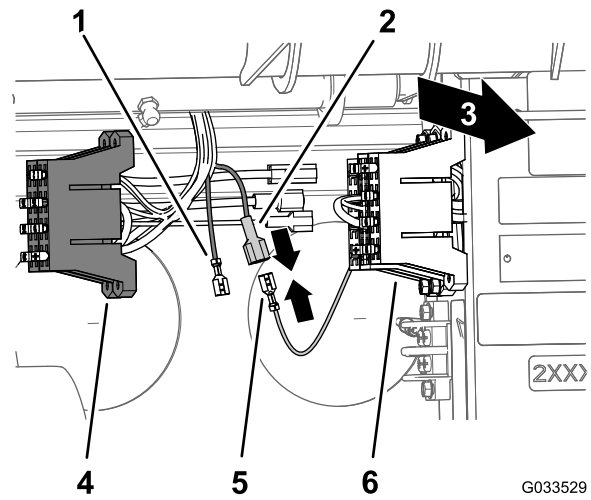

Figure 25
3. Connect the uninsulated receptacle terminal of the fuse block for the machine to the insulated blade terminal of the fuse block of the sprayer (Figure 25).
2. Locate the uninsulated receptacle terminal at the end of the open, yellow power wire of the fuse block for the machine and the insulated blade terminal at the end of the yellow, optional-power wire of the fuse block of the sprayer wiring (Figure 25).